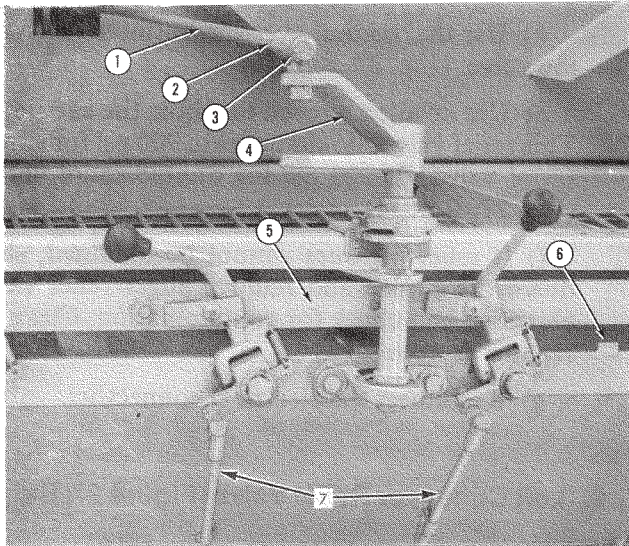

Figure 21. Hopper
4. Adjust the gate linkage length by turning the control lever ball joint connector "in" or "out" until the control lever just touches the actuator bar stop while maintaining the $\frac{1}{16}$ " gate clearance. (Ref. 7, Fig. 21)